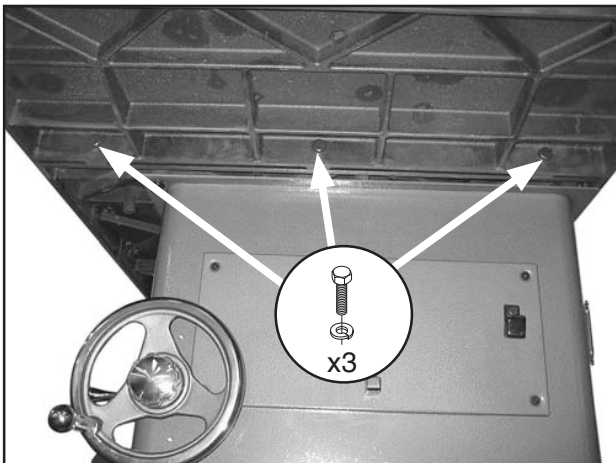

Figure 26. Extension wing installed.
4. Attach the cast iron wing to the main table with (3) M10-1.5 x 35 hex bolts and 10mm lock washers, as shown in **Figure 26**. Finger tighten for now.